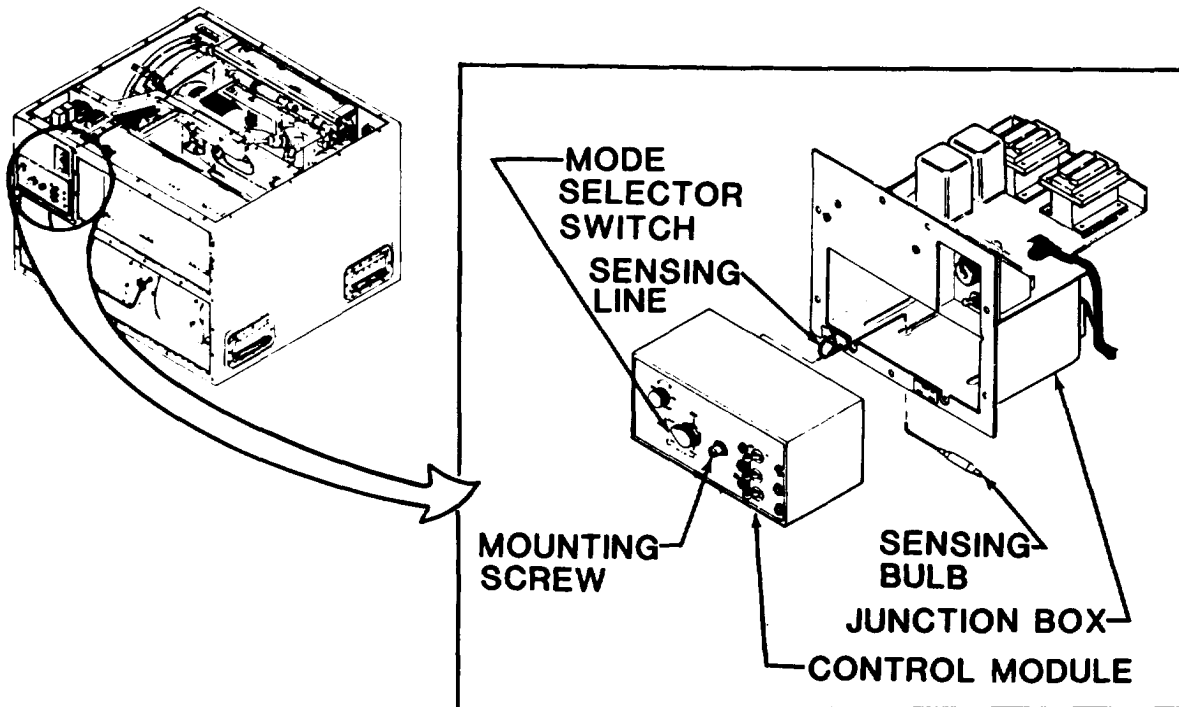
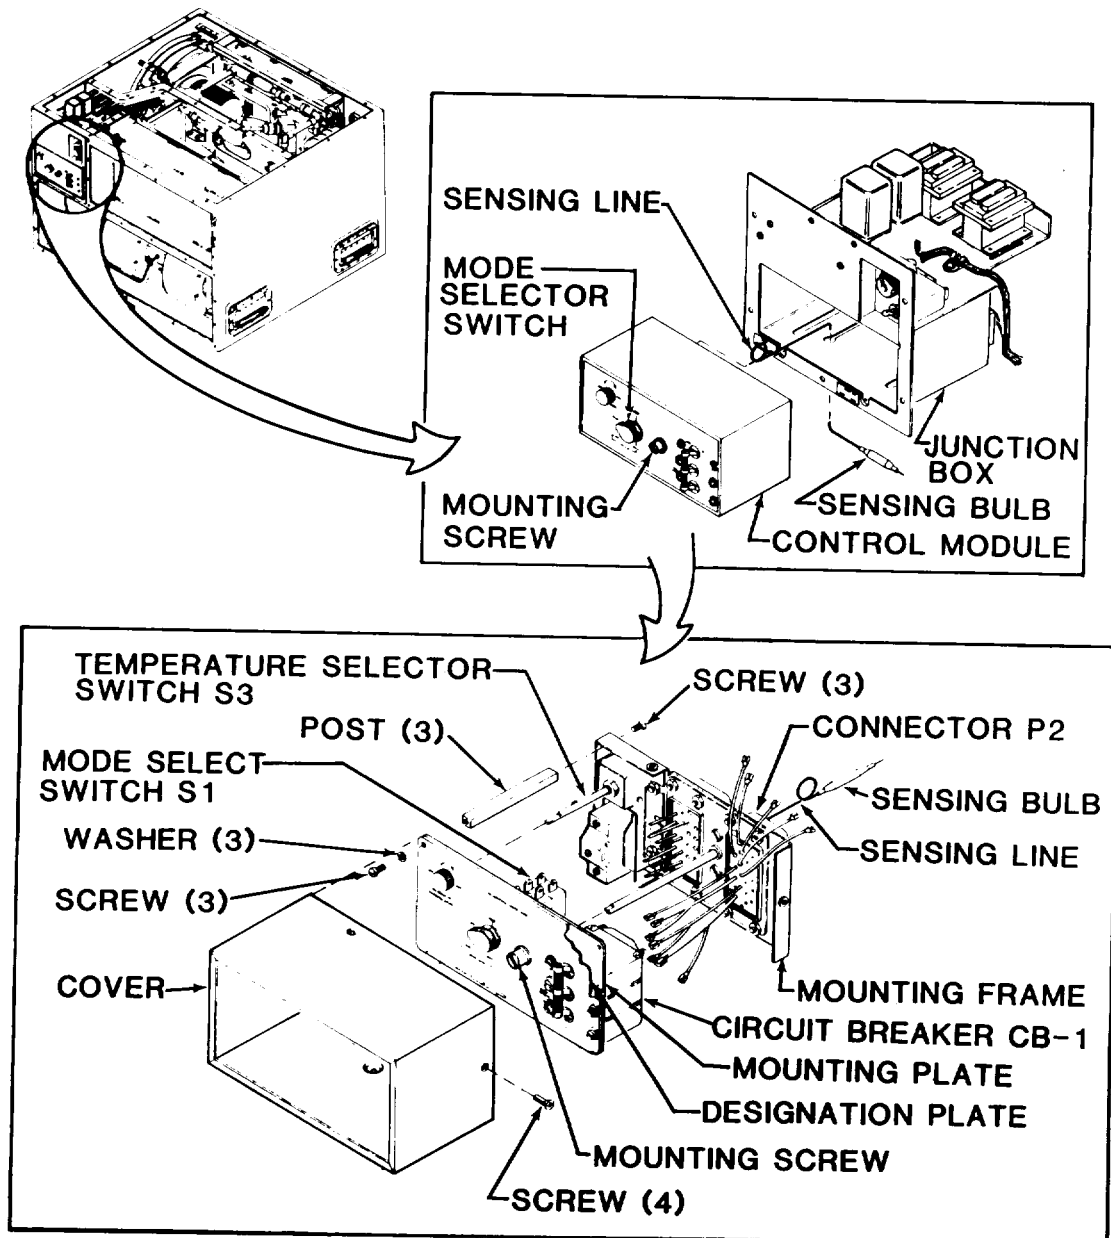

Figure 4-16. Control Module Removal
Figure 4-17. Control Module
The control module is normally located in the upper left front corner of the unit. (See fig. 4-16.) It can be remote mounted, see paragraph 4-4a(2).
b. Test/Repair. (See fig. 4-17.)
(1) See paragraphs 4-22 through 4-25 for testing of individual components.
(2) Repairs are limited to replacement of individual components and repair of wire connections.
d. Installation. (See fig. 4-16.)
(1) Carefully work sensing bulb through junction box frame and into mounting clamp(s) behind return air louver.
(2) Tighten clamp screw(s).
(3) Slip control module into the opening in junction box. Take care not to crush or kink sensing bulb capillary line.
(4) Tighten control module mounting screw.
(5) Install return air louver and secure with eight screws.
(6) Connect power at power source.